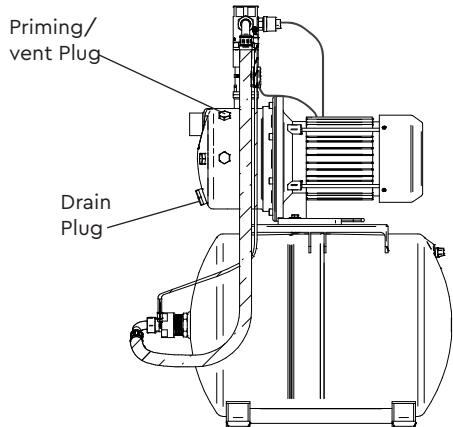

Fig. 7
**5.13 Priming:** Prior to switching the pump on and connecting the outlet hoses to the system pipework the pump chamber must be primed. The pump must be primed (filled with water) before starting. Turn on water supply, prime and vent the pump by unscrewing the priming plug (Fig. 7) slowly until all air escapes and water emerges. Re-tighten the plug.